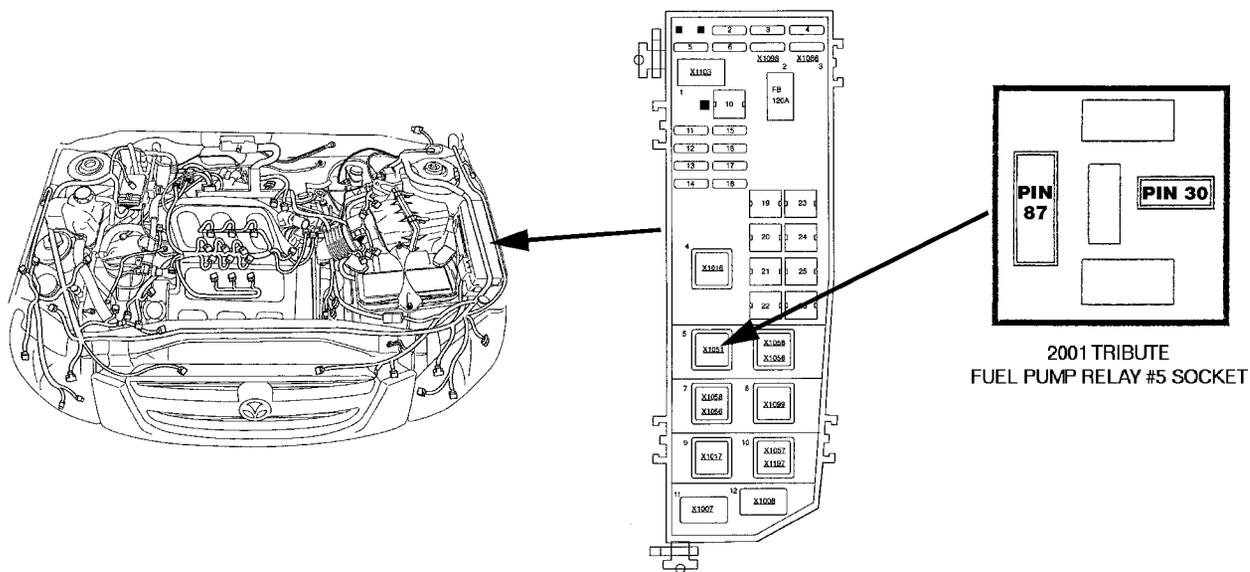

Figure MA014-8
1. With the ignition off, locate and remove the fuel pump relay in the underhood fuse/relay box (Figure MA014-8). Start and run the engine until it stalls, then restart and stall the engine a second time.
4. Install a fused jumper across terminals 30 and 87 (Figure MA014-8).
3. Install a fused jumper across terminals 30 and 87 (Figure MA014-8).